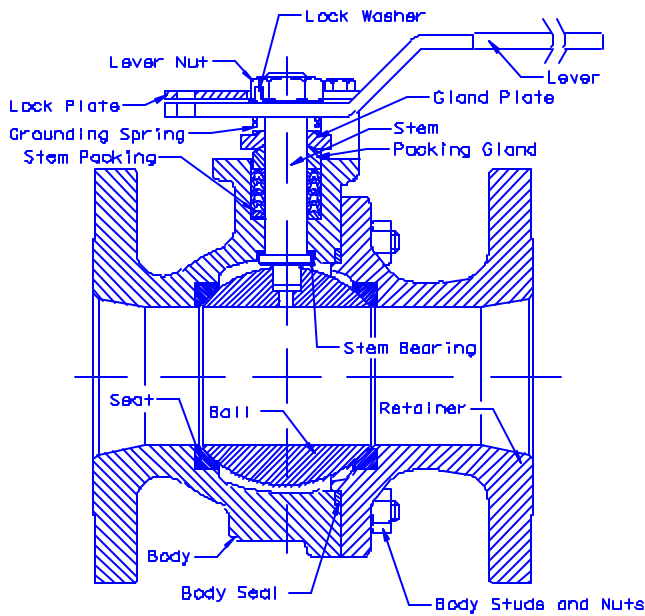

Figure 1: Typical Standard Port Valve Assembly
- ***Standard & Full Port only*** Insert the retainer seat and place the retainer on the body. The ANSI flange bolting will always straddle the valve centerlines. See Figure 1. Loosely assemble the body bolting nuts.